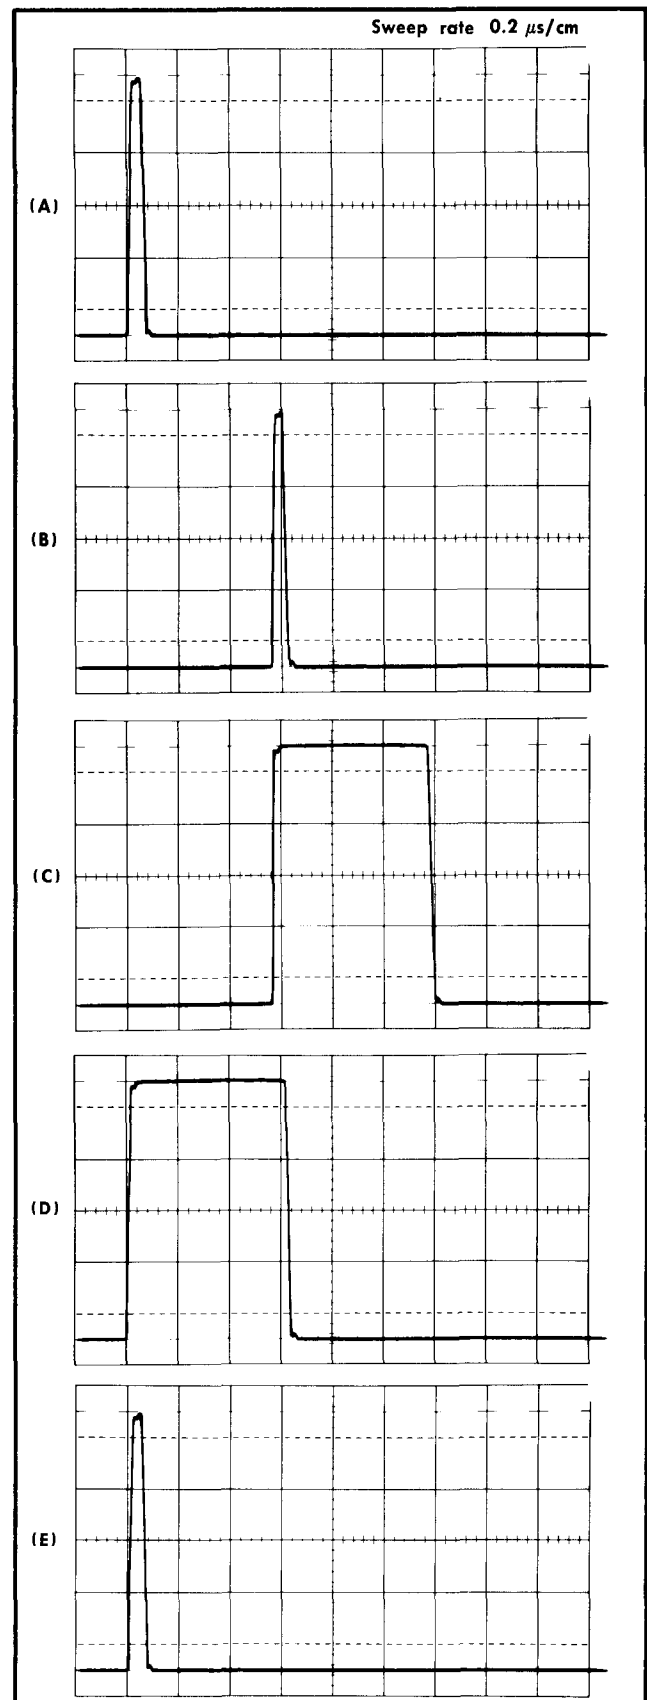

Fig. 6-6. Typical test oscilloscope displays obtained during check of width and delay trigger sensitivity adjustments.
e. Observe the test oscilloscope display (see Fig. 6-6) while performing the following four operations.